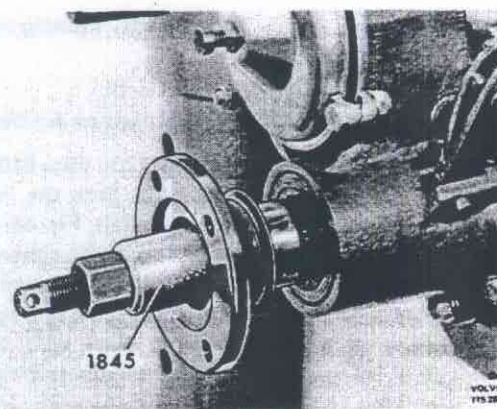
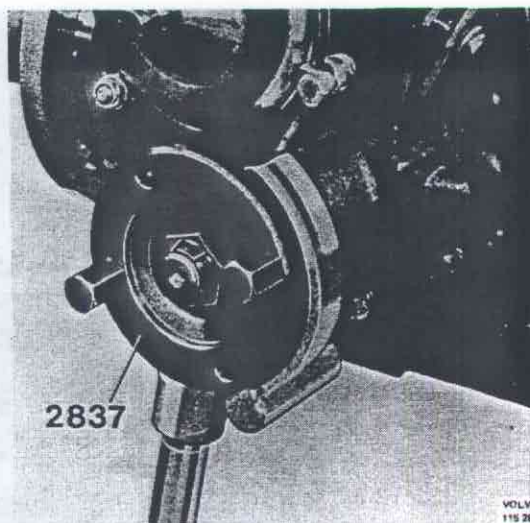

Fig. 43-183. Pressing on flange
Fig. 43-184. Fitting counterhold
10. Pull on the flange with 1845, see Fig. 43-183. Remove 1845 and fit counterhold 2837, see Fig. 43-184. Fit the flange nut and tighten it to a torque of 100–120 Nm (10–12 kpm = 72–87 lbftf).